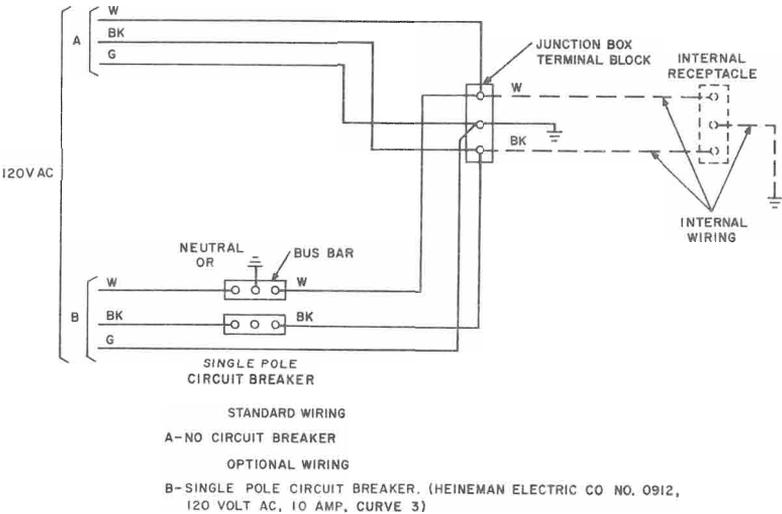

Fig. 23—Wiring Diagram
- 3.65** Use Fig. 23 as a guide for internal wiring.